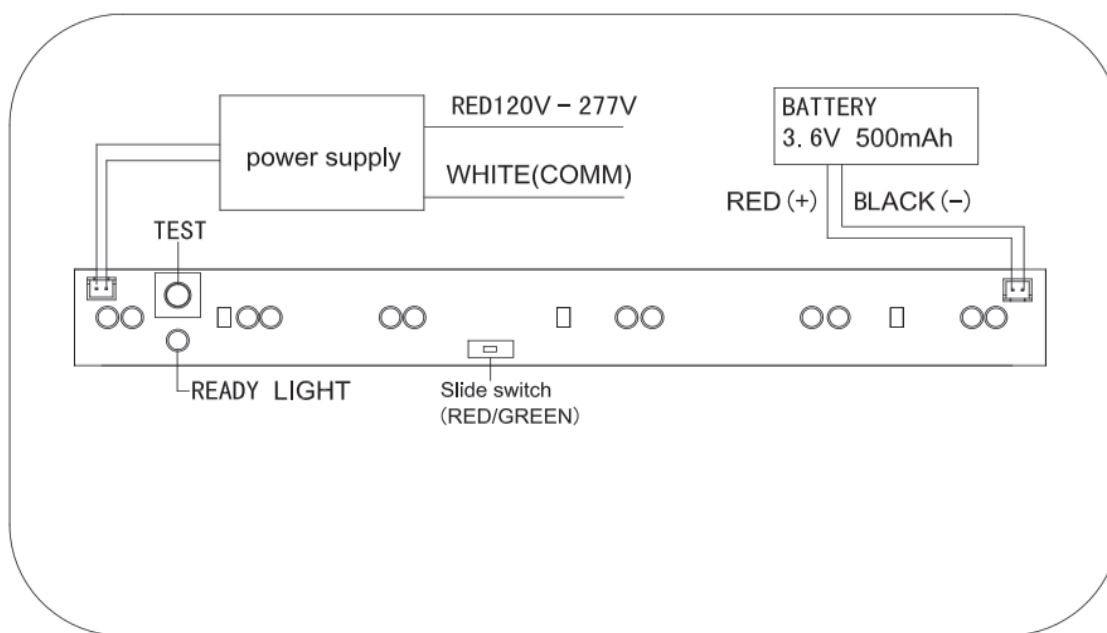

Figure 3 - Wiring Diagram
- Connect battery (See Figure 3).
- Connect battery(See Figure 3).